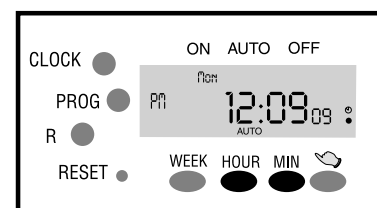

Figure 15
4.1 Press  and  at the same time. The symbol “” will be displayed on the right hand side of the timer (See Figure 15). This indicates that daylight saving time has been programmed and the timer will now add one hour to the clock. Press  and  a second time to disable daylight saving time. This function will work only in clock mode.